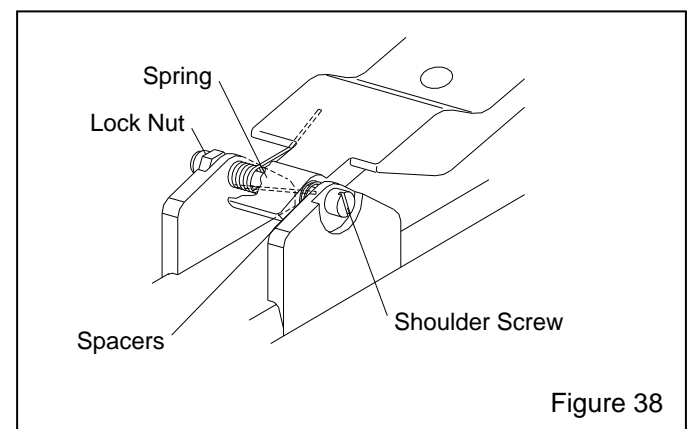

Figure 38
7.8.3 Handle lever replacement, Figure 38
7.8.3.1 Remove the lock nut from the shoulder screw. Before removing the screw, note the positions of the spacers and spring as shown in Figure 38. The bent end of the spring goes against the handle lever, facing up. The straight end goes against the body, facing down.